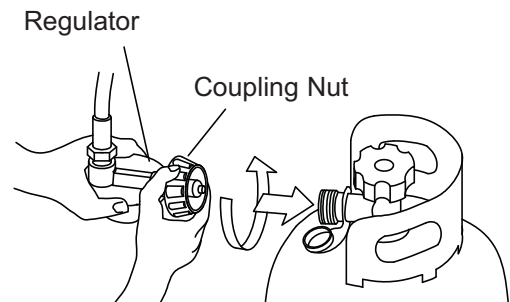

Figure 3. Connecting Hose/Regulator to LP cylinder
- To connect LP cylinder, insert regulator end fitting into cylinder valve, rotate coupling nut clockwise and tighten firmly (see Figure 3).